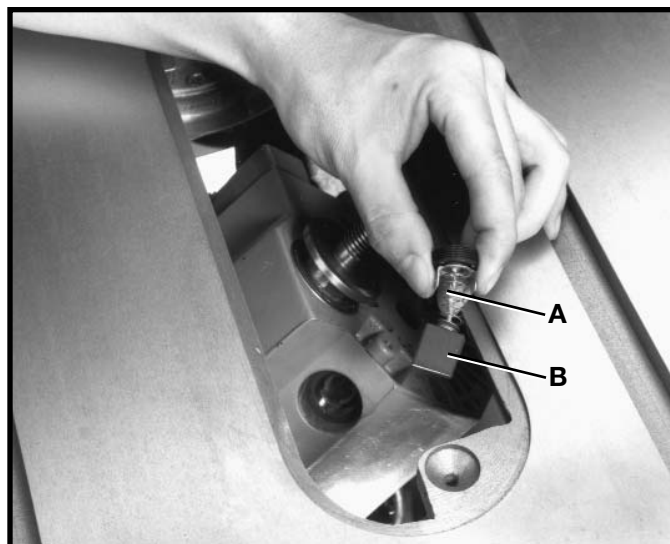

Fig. 64
3. Fig. 64, illustrates the brush cap (A) and brush (B) removed for inspection. When the carbon on the brush (B) is worn to 3/16" in length or if either the spring or shunt wire is burned or damaged in any way, replace both brushes. If the brushes are found serviceable after removing, reinstall them in the same position as removed.